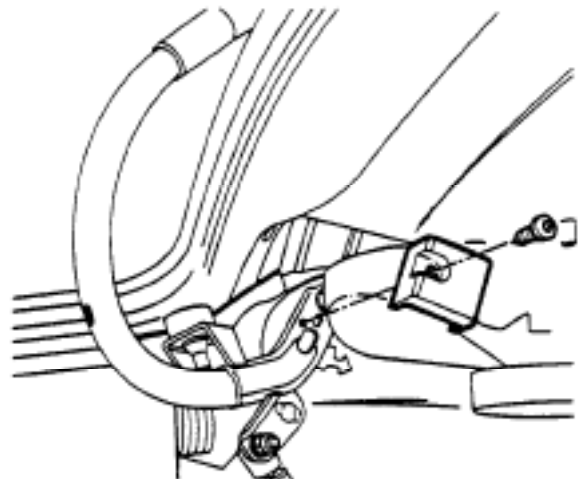

Figure 5. Plastic Locating Piece
5. Remove and discard the plastic locating piece on the hinge (see Figure 5).